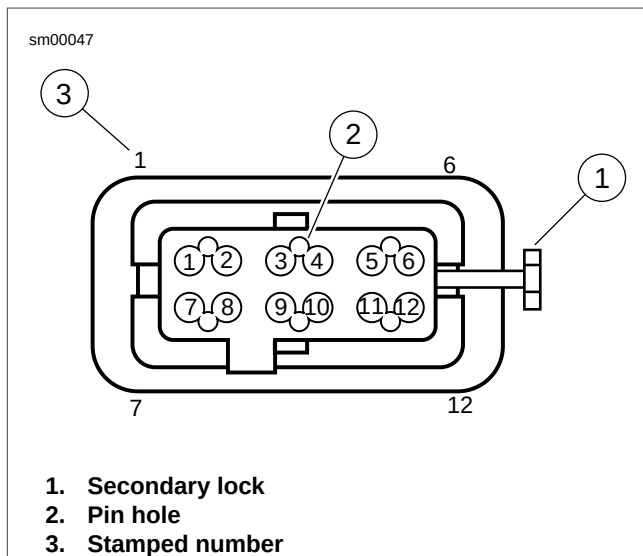

Figure A-49. Packard Micro 64 Connector: Housing
1. See Figure A-49. Locate the head of the secondary lock (1) on one side of the connector housing.
3. Locate pin hole (2) between terminals on mating end of connector.
See Figure A-49. For wire location purposes, the corners of the socket housing are stamped (3) with the numbers 1, 6, 7 and 12, representing terminals 1-6 on one side, and 7-12 on the other.